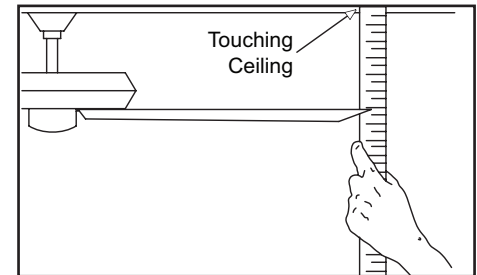

Figure 10
2. Most fan wobble problems are caused when blade levels are unequal. Check this level by selecting a point on the ceiling above the tip of one of the blades. Measure from a point on the center of each blade to the point on the ceiling. Measure this distance as shown in Figure 10. Rotate the fan until the next blade is positioned for measurement. Repeat for each blade. Measurements deviation should be within 1/8". Run the fan for 10 minutes.